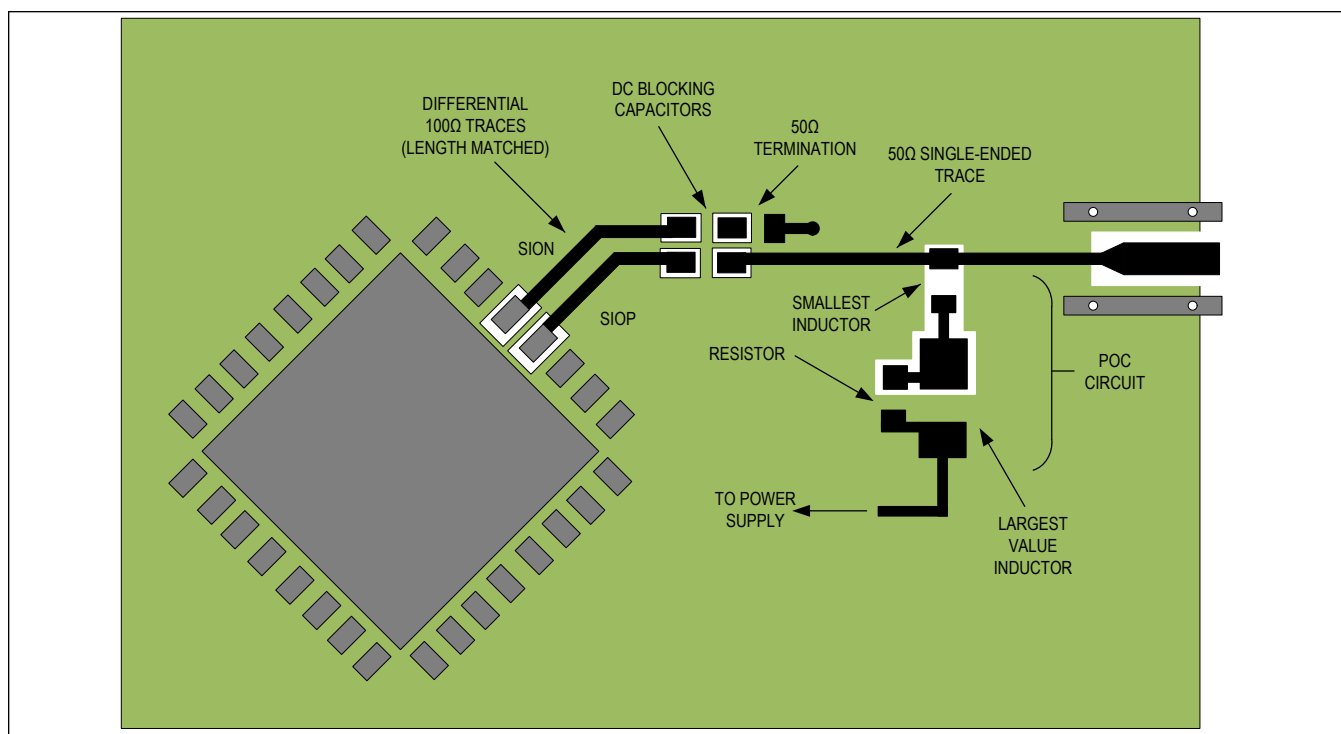

Figure 30. Coax PoC Layout Example
- Using ground cutouts as needed under the first two inductors and resistors. See Figure 30.